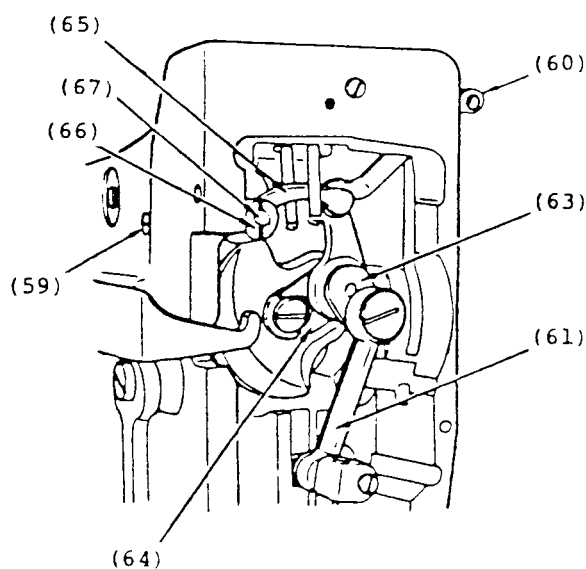

Fig. 25
5. Loosen small set screw (59), Fig. 25, in the rear of the arm of the machine.
6. Turn machine pulley until thread take-up lever link (65) is at its lower dead point and remove thread take-up lever link (65) and thread take-up lever link hinge stud (66) taking care not to pull loose its wick (67) until the stud is removed.
7. Back the end of thread take-up lever (60), Fig. 25, toward the inside of the machine, turning the machine pulley as required, until the take-up is free of the slot provided for it.
8. The thread take-up lever link assembly, including parts (60), (61), (62), (63) and (64), can now be pulled free of the needle bar crank.
1. Make sure that the wearing plate (64) is in place and undamaged on the face of the needle bar crank, as shown in Fig. 25.
4. Adjust the two oil wick loops in holder so that the two loops come as close as possible to, without touching, the two sets of needle bearings (62), as shown in Fig. 25.
5. Securely tighten oil wick holder screw (68).
6. Replace top arm plug screw (55).